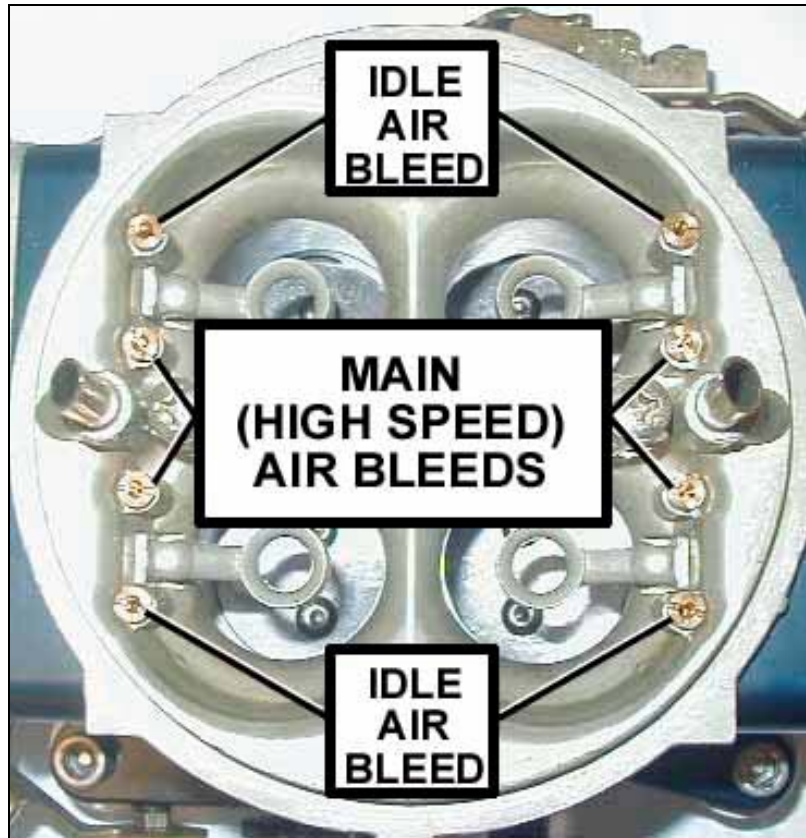

Figure 11
**NOTE:** See Figure 11 for air bleed locations and identification. It is recommended that all jet sizes be documented before any tuning of the air bleeds or main jets is started. Below is a chart for recording the jet and air bleed sizes for your 4150 ULTRA HP Series carburetor, as shipped from Holley. Should you adjust the air bleed size or main jet size, this chart will allow the tuner to return the carburetor to the original jetting. Please place this information in a safe place along with any other documentation for your carburetor.